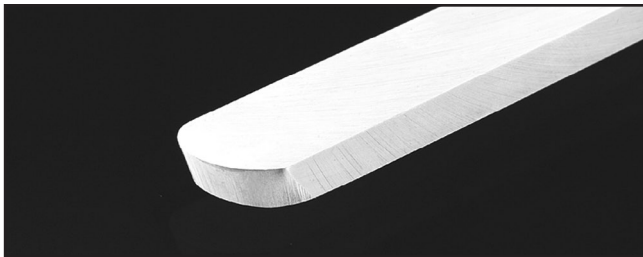

Figure 18. Round nose scraper.
- **Scrapers**—Mainly used where access for other tools is limited, such as hollowing operations. This is a flat, double-ground tool that comes in a variety of profiles (Round Nose, Spear Point, Square Nose, etc.) to match many different contours. **Figure 18** shows an example of a round nose scraper.